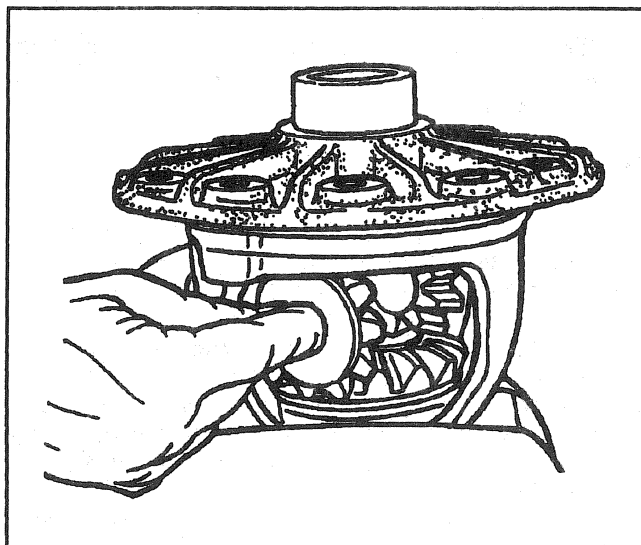

Figure 8—Removing/Installing the Pinion Gears.
- Rotate the side gears until the pinion gears are in the opening of the case (Figure 8).